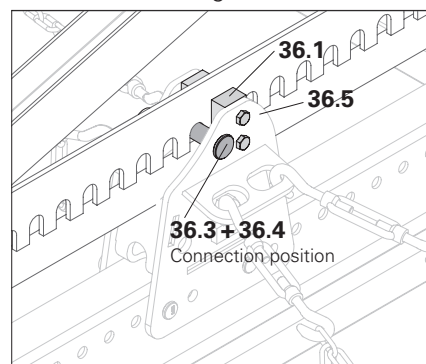

Fig. A10.03b
2. Secure blocks (**36.1**) with 2 bolts M12 x 30 respectively – 2x. (Fig. A10.03b + A10.03c)
- The bearer and girder package are now securely connected. (Fig. A10.03b)